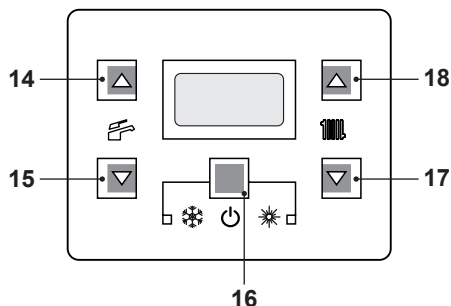

Fig. 7.4
- Press the 16 key for 2 seconds until both  symbols appear on the display (Fig. 7.4).
- Switch off the boiler by pressing the 16 (Fig. 7.4) key for 2 seconds until the symbol appears on the LCD display (Fig. 7.3).